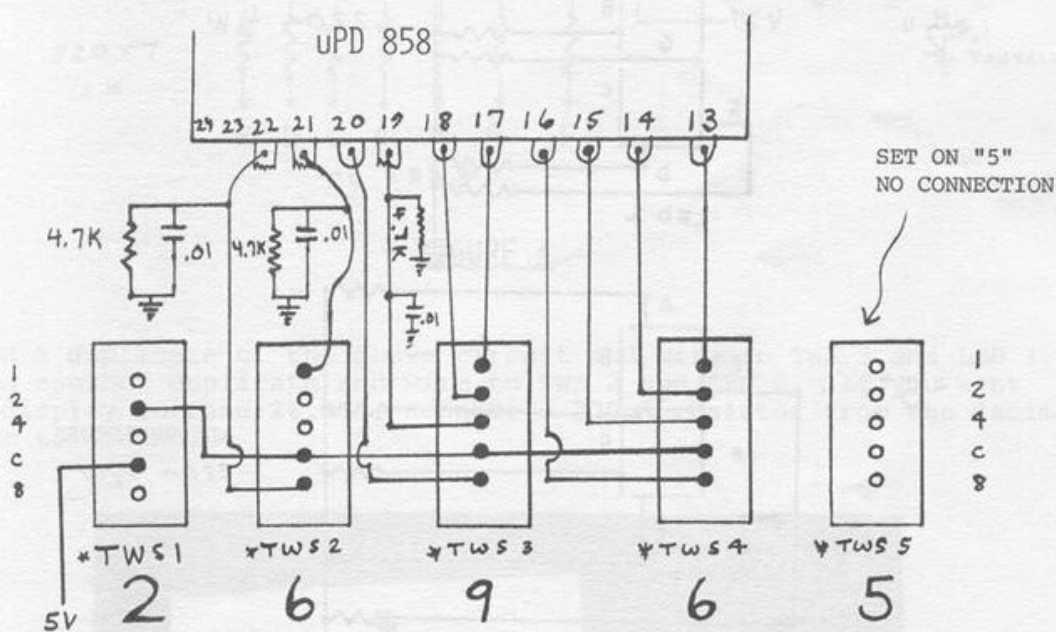

FIGURE 1
1. Wire up five 10 position BCD type thumbwheel switches\* as shown in FIGURE 1.